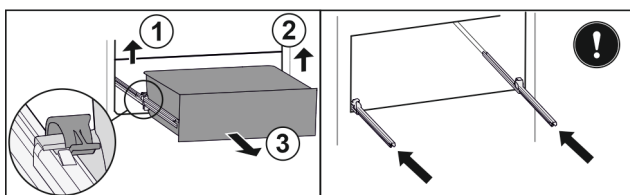

Fig. 101
- Lift left clamp and simultaneously pull drawer forwards on the left. Fig. 101 (1)
- Lift right clamp and simultaneously pull drawer forwards on the right. Fig. 101 (2)
- Remove drawer to the front. Fig. 101 (3)